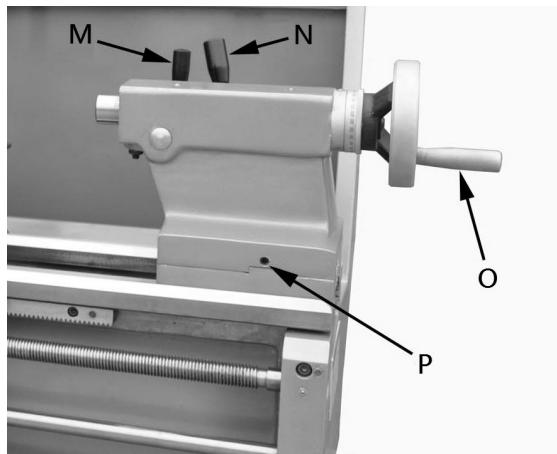

Figure 9-4
18. **Compound Slide Lock** (J, Figure 9-4) – Turn set screw clockwise to tighten and counter-clockwise to loosen.
19. **Cross Slide Lock** (K, Figure 9-4) – Turn set screw clockwise, and tighten to lock. Turn counterclockwise and loosen to unlock.
20. **Carriage Lock** (L, Figure 9-4) – Turn hex socket cap screw clockwise and tighten to
21. **Tailstock Quill Clamping Lever** (M, Figure 9-4) – Lift up to lock spindle. Push down to unlock.
22. **Tailstock Clamping Lever** (N, Figure 9-4) – Lift up lever to lock. Push down lever to unlock.
23. **Tailstock Quill Traverse Hand wheel** (O, Figure 9-4) – Rotate clockwise to advance quill. Rotate counterclockwise to retract quill.
24. **Tailstock Off-Set Adjustment** – Three set screws located on tailstock base are used to off-set tailstock for cutting tapers. Loosen lock screw on tailstock end. Loosen one side set screw (P, Figure 9-4) while tightening the other until the amount of off-set is indicated on scale. Tighten lock screw.